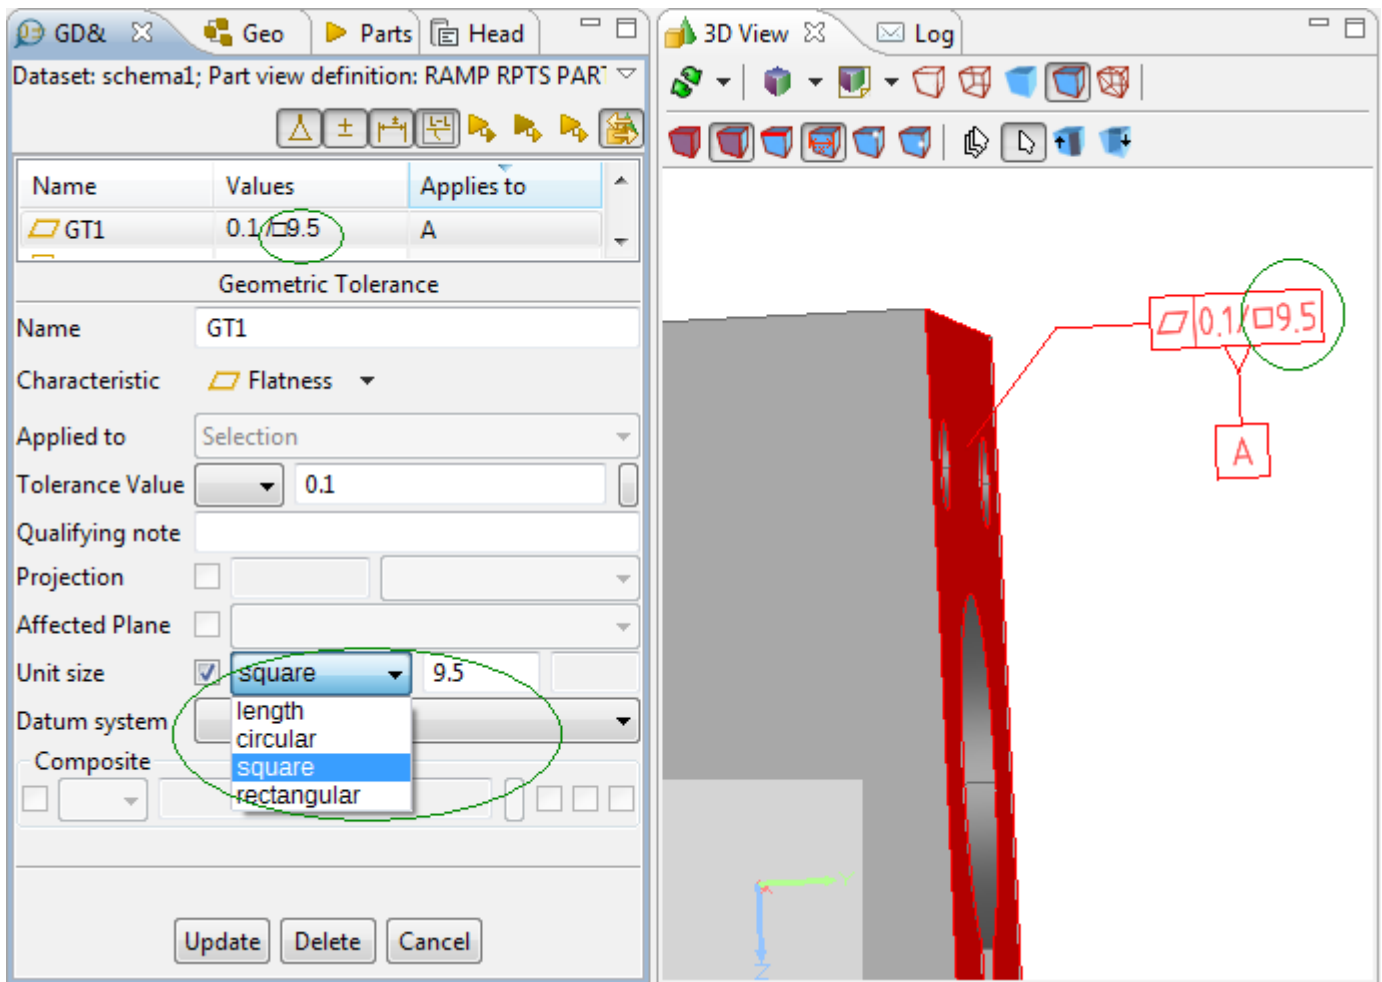

Figure 6. GD&T view (left): created geometric tolerance with defined square unit area; 3D View (right): presentation
- **square** - in case the square area, enter a length of the side of the square into the number field. A square unit basis area is defined by a square symbol followed by the length of the square side value (see an example in Figure 6).